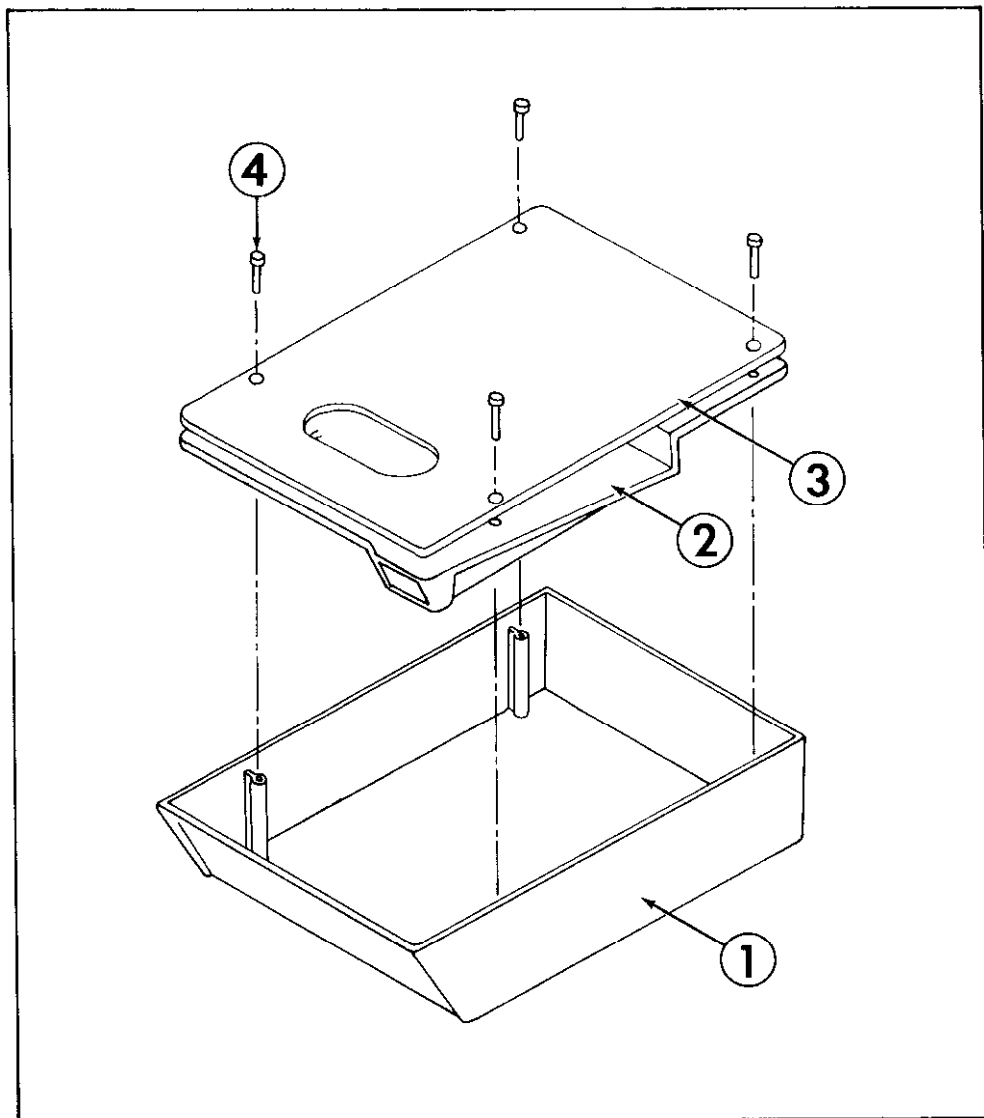
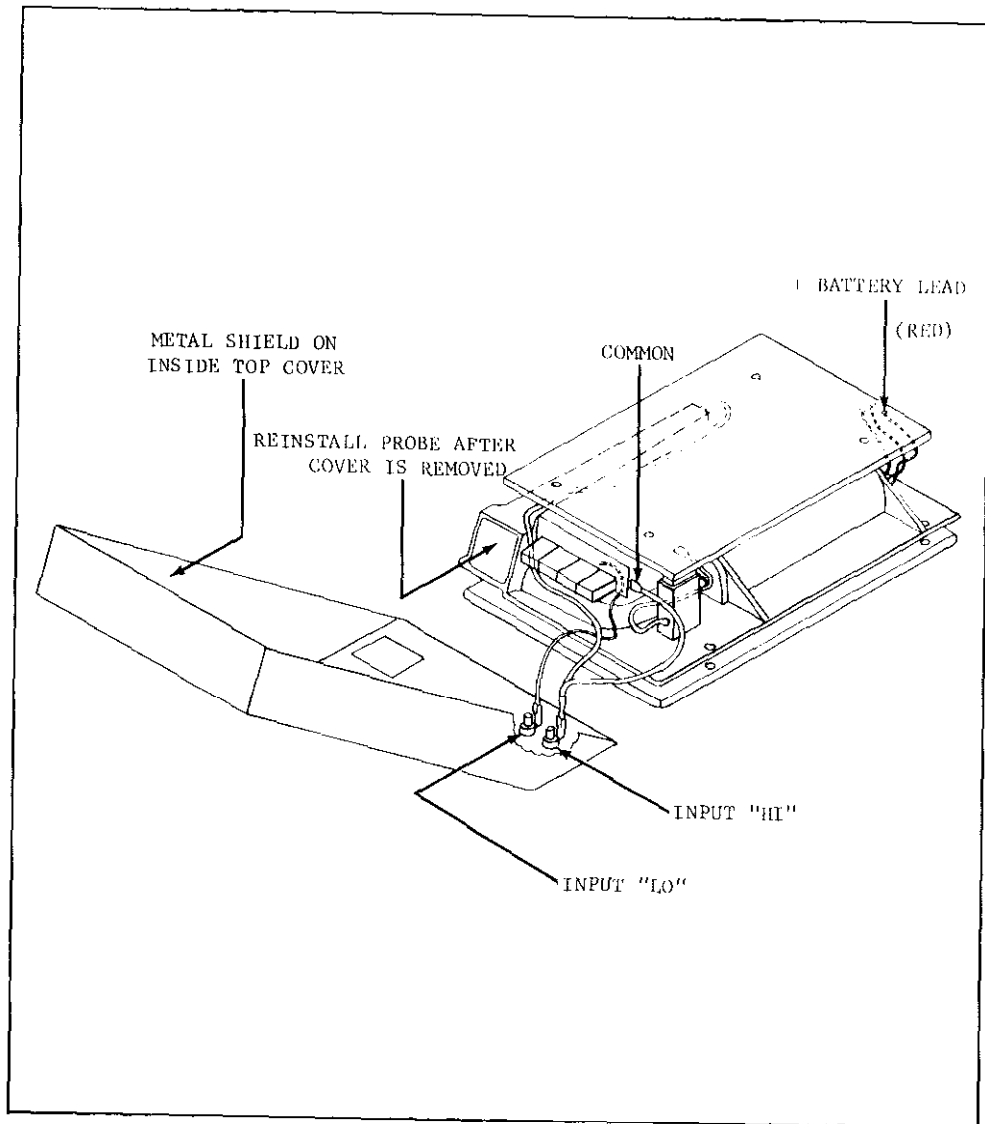

FIGURE 20. Top Cover Assembly
FIGURE 21. Chassis Assembly
a. Chassis Disassembly. To gain access to the printed circuit board, remove the four slotted screws on the bottom panel as shown in Figure 20. Lift the top cover at the rear panel and open as shown in Figure 21. Before the calibration is performed, disconnect the leads attached to the input terminals on the front panel. Place the top cover on top of the printed circuit board such that the metal shield on the cover faces up. Make a temporary connection between "common" on the circuit board and the metal shield using a clip lead. The top cover now serves as an electrostatic shield when the calibration procedure is performed. Add jumper leads from the chassis to the front panel terminals so that the terminals are useable. When the calibration is completed, reconnect the front panel terminals and replace the top cover as shown in Figure 20.
3) Malfunction of power supply.	Check red, blue, and black power leads for proper connection to circuit board. Refer to Figure 21 for proper locations. Check dc volts on integrated circuit QA101: Pin 7 should be +5V \pm 5%. Pin 4 should be -12V \pm 5%. (If voltages missing, see (c) below.)